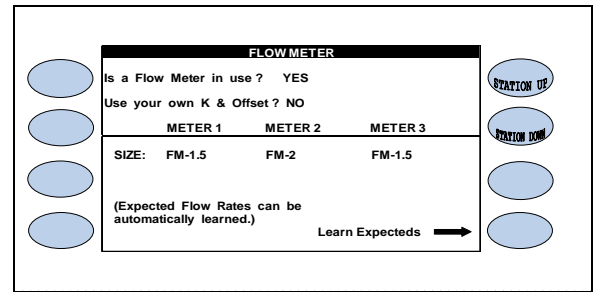

Figure 12.6
1. After you have entered the appropriate Flow Meter(s) select the **LEARN EXPECTEDS** Menu key (Figure 12.6).